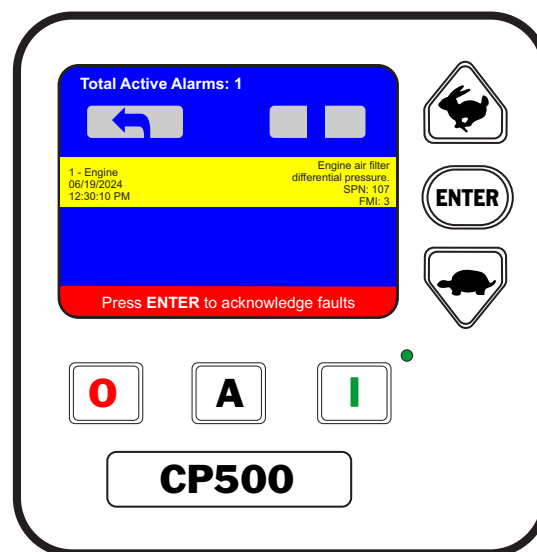

Figure 18. Total Active Alarm Screen
- Next, press the **ENTER** button and verify that the **TOTAL ACTIVE ALARM** screen is displayed as shown in Figure 18.